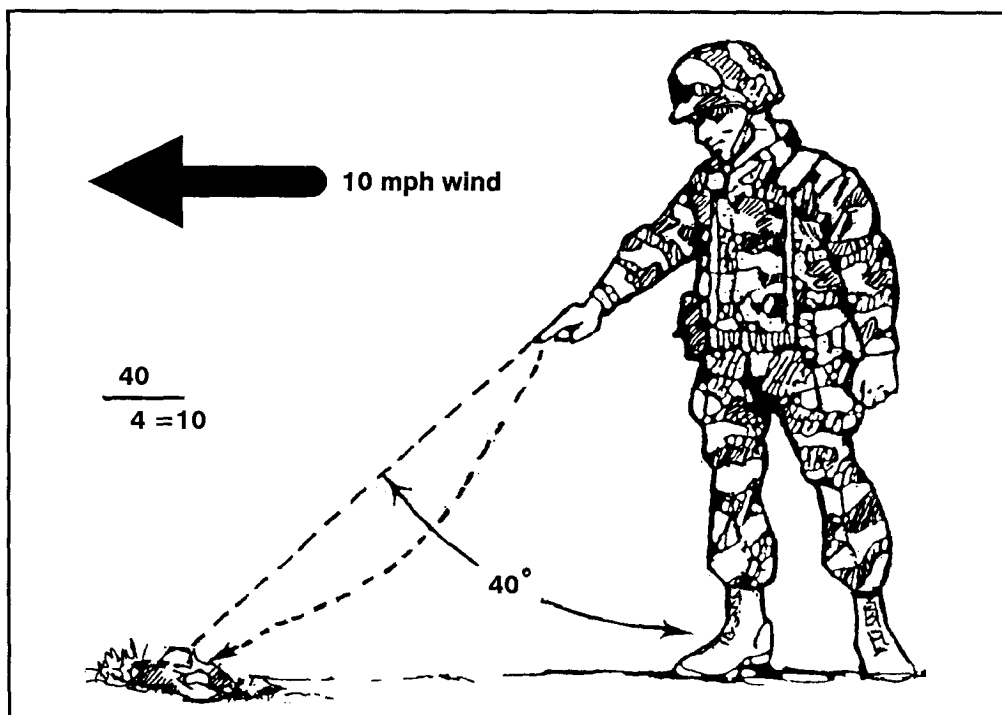

Figure 5-11. Pointing method.
(2) *Pointing method.* A piece of paper or other light material can be dropped from shoulder height. By pointing directly at the spot where it lands, the angle can be estimated. As shown in Figure 5-11, page 5-18, this angle is